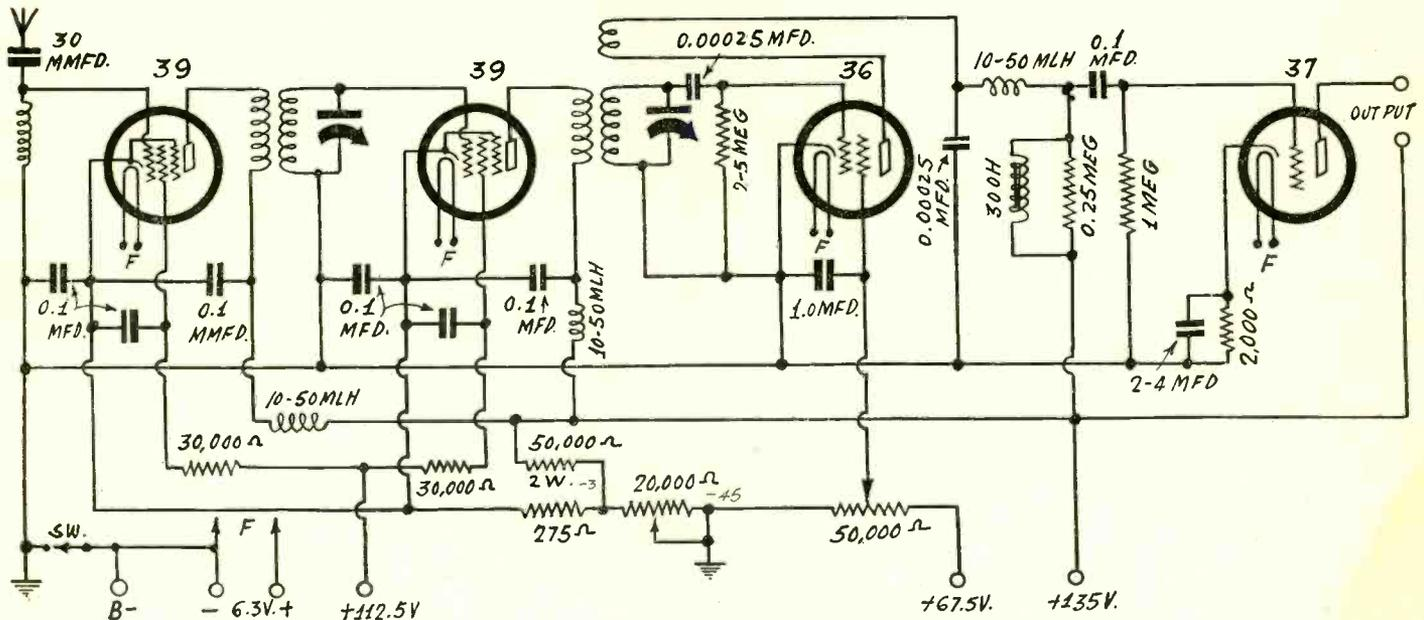

FIG. 1
**G**REAT INTEREST now centers on short waves. Many sets designed to receive them are being constructed, and here is one of them, suggested by RCA-Cunningham in their latest radio tube manual. The circuit assumes that a storage battery is to be employed for heating the filaments, and for that reason all the tubes in the receiver, which is shown in Fig. 1, are of the 6.3-volt, 0.3-ampere type. There are two radio frequency amplifiers of the 39 type, a regenerative detector of the 36 type, and an audio amplifier of the 37 type. Since each of the tubes requires 0.3 ampere, the entire receiver will take only 1.2 amperes. A comparatively small storage battery will suffice, just so the voltage is 6.3 volts, that is, just so there are three cells in series.